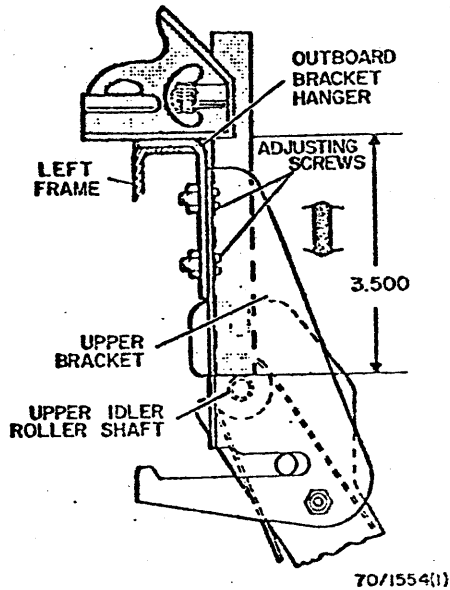

Fig. 3-200. C Transport Vertical Position
3. Adjust both the inboard and outboard upper brackets in accordance with Fig. 3-200.